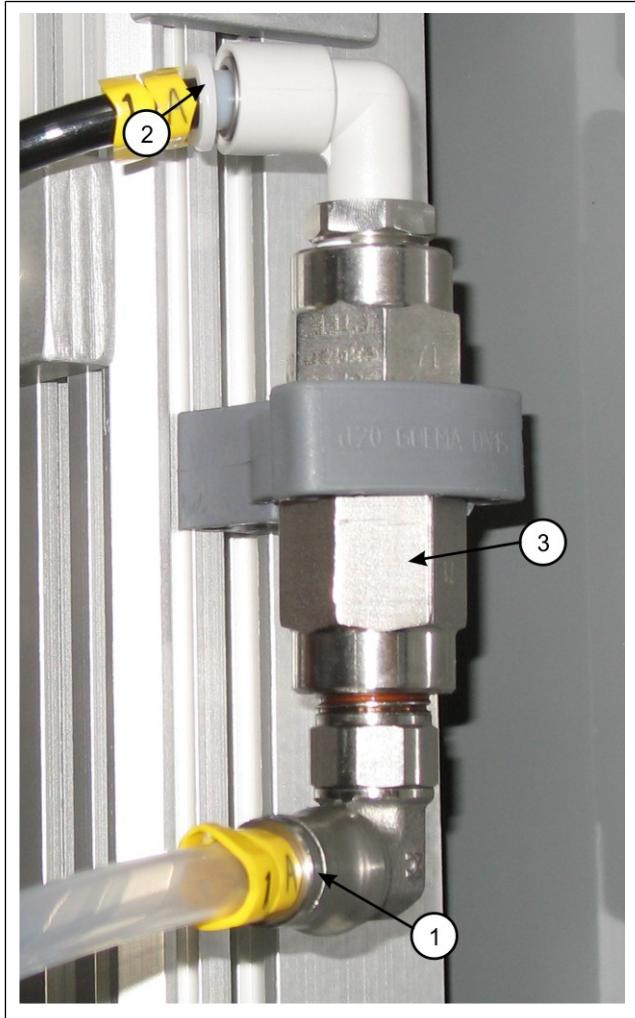

Fig. 7. Replacing the check valve.
2. Detach tubes from the connectors (Fig. 7, parts 1 & 2) and detach the valve from its plastic holder (if any).